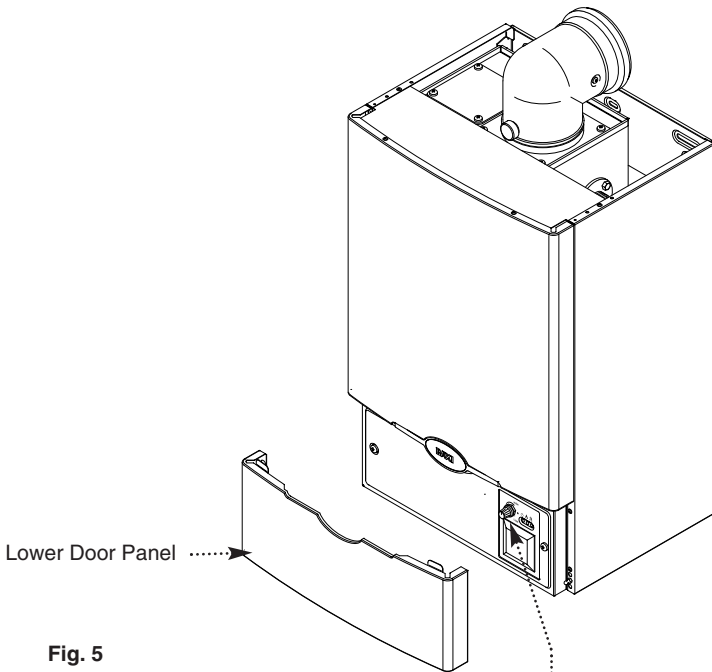

Fig. 5
2. Remove the lower door panel by gripping its lower edge and rotating upwards (Fig. 5).